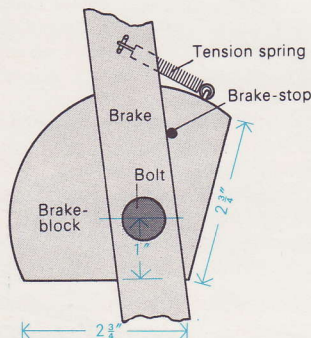

Fig. 3. Brake assembly.
Cut brake-blocks (5) from $2\frac{1}{4}$ in. dia. discs (fig. 3). Glue each block to sides, just in front of back wheels, with bottom edges flush.